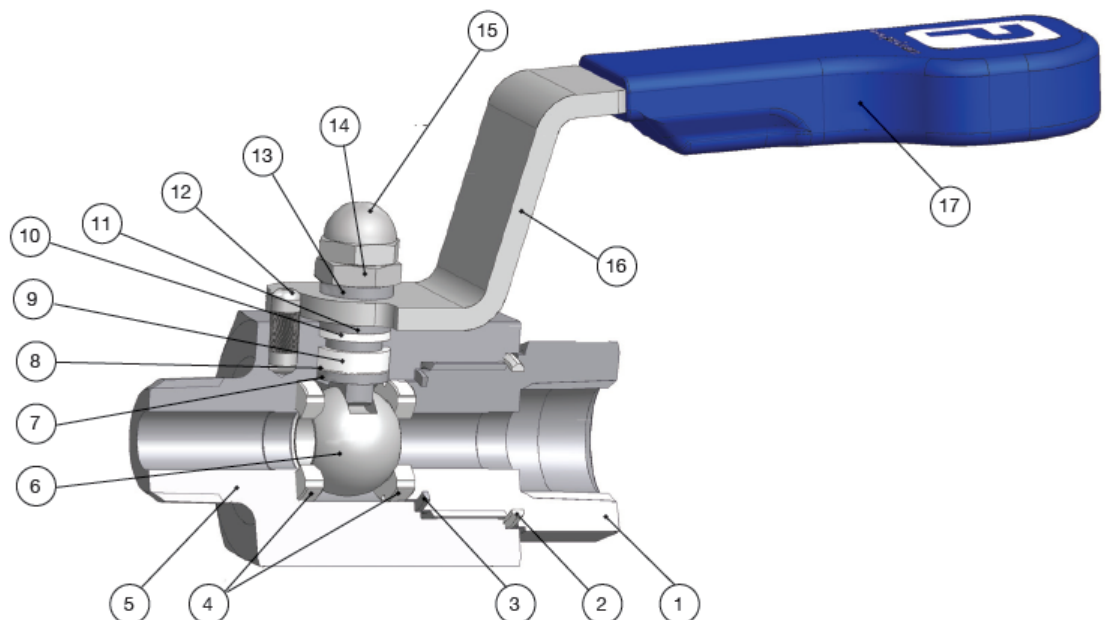

Figure 1
When fitting A-lok/CPI, care should be taken to ensure that the end connector (1) (*fig1*) is firmly held by an appropriate spanner / wrench (the size varies depending on the size of valve) to prevent any movement when assembling or disassembling pipe or tube connections.